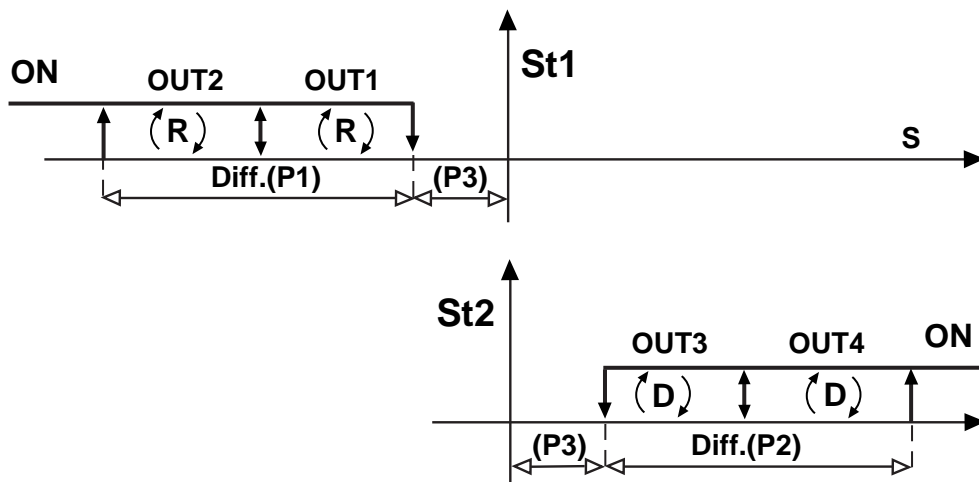

Fig.34
**2 - In Modes 3, 4 and 5**, if C33=1, the control action modifies as shown in the graph below (fig. 34), for Z model.